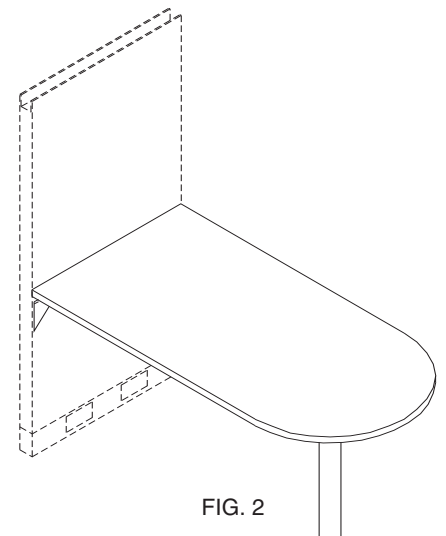

FIG. 2
1. When the square end of a "D" worksurface is to be attached to a panel (Figure 2), you will use the two Worksurface Support Brackets and lock clips that are included with the worksurface. See page 2-1-4 for WSB install instructions.